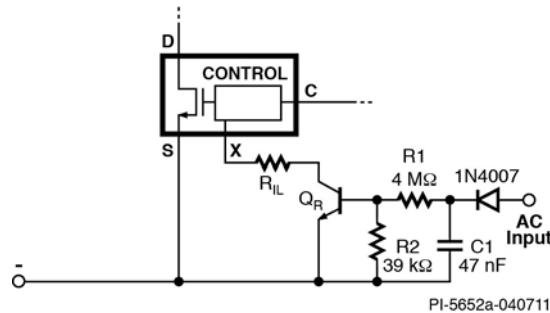

Figure 3 – Fast AC Reset Circuit.
The TOPSwitch-JX family has a fast AC reset function which can be configured on the EXTERNAL CURRENT LIMIT (X) pin (as shown in Figure 3). Should the device stop switching due to a latching OVP fault condition, the circuit connected to the X pin will force I_x to exceed $I_{x(\text{TH})} = -27 \mu\text{A}$ (typical) and reset the latch when the AC input is disconnected or falls below a set threshold value.
In Figure 3, R1, R2 and C1 set the time after AC is removed before the latch is reset. A higher gain BJT Q_R is desirable to allow a higher resistance value for R1 and lower capacitance value for C1, and thus minimize the circuit dissipation.